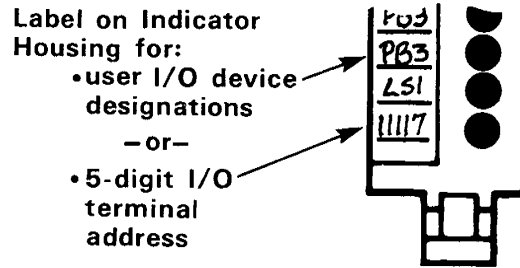

Figure 3.27 – Indicator Labeling
- **Indicator labeling** – A space to the left of I/O module status indicators can also be used for labeling purposes. (Refer to Figure 3.27.)